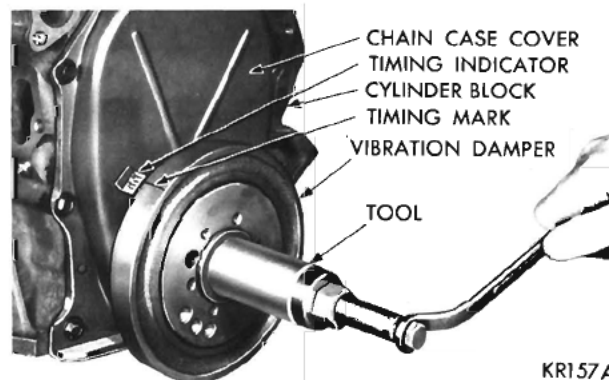

Fig. 94—Installing Vibration Damper Assembly Tool C-3688
- (1) Install the hub on the crankshaft.
- (2) Place the installing tool, part of puller set Tool C-3688 in position and press the damper hub on the crankshaft (Fig. 94).
- (3) Slide the pulley over the shaft and attach with bolts and lockwashers.
- (4) Tighten the bolts to 15 foot-pounds torque.
- (5) Install damper hub retainer washer and bolt. Tighten to 135 foot-pounds torque.
- (6) Install radiator, fan and belt, hoses and close the drains.
- (7) Fill the cooling system.